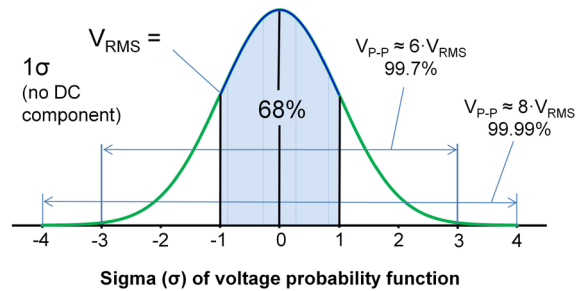

Figure 58: Gaussian noise spikes outside the ±3-times range are rare.
Resistor noise is also Gaussian, a description of its amplitude distribution, a probability density function. It is Gaussian because it was created by the summation of a gazillion little random events. The central limit theorem explains how this noise becomes Gaussian. The root-mean-square (RMS) voltage of alternating current (AC) noise is equal to $\pm 1 \sigma$ of the amplitude distribution (Figure 58). For 1-V RMS noise, there is a 68 percent ($\pm 1 \sigma$) probability that the instantaneous voltage will be within a ± 1 -V range. A common misconception is to relate or equate white and Gaussian, but they are unrelated. Filtered resistor noise, for example, is not white but remains Gaussian. Binary noise is definitely not Gaussian, but it can be white. Resistor noise is white and Gaussian.